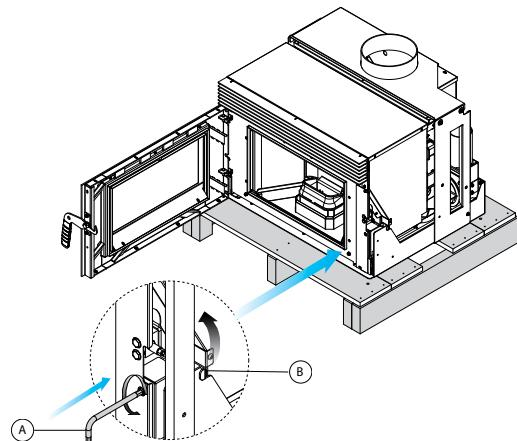

fig. 6.1.2
- 4) Insert the Allen key (A) into the limiter's socket; turn the closing lever counterclockwise, to position (B) (fig. 6.1.2), close the door, and take the appliance out, up to the end of the rails (fig. 6.1.3).